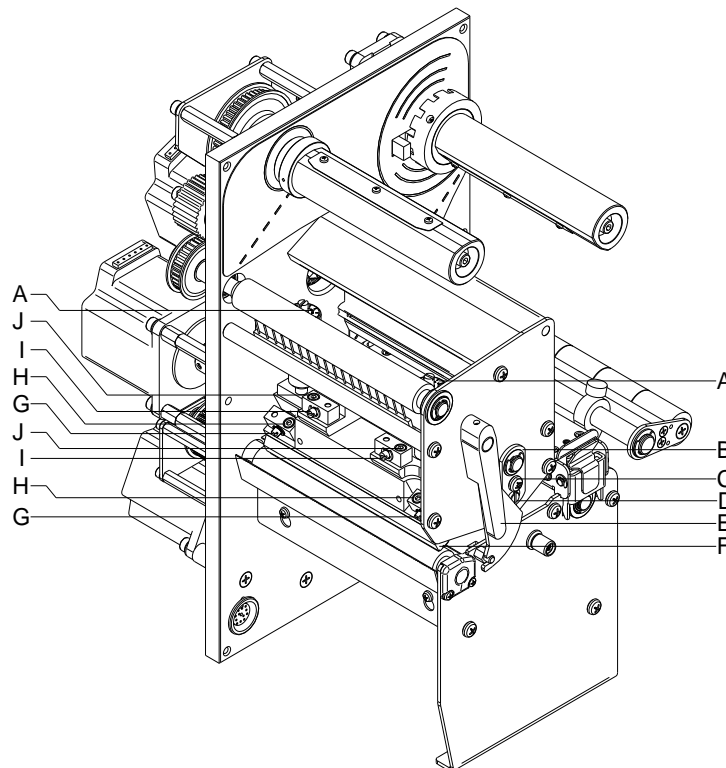

Figure 15
1. Loosen the screws (H or J, Figure 15) with a hexagon key by approx. $\frac{1}{4}$ rotations.
2. Adjust the parallelism with the adjusting screws (G or I, Figure 15).
4. Tighten again the screws (H or J, Figure 15).
1. Loosen the screw (C, Figure 15) by approx. $\frac{1}{4}$ rotations.
2. In order to achieve a pressure balance, turn the excentric bolt (D, Figure 15) as long as the printing result comes up to your full expectation.
3. Tighten again the screw (C, Figure 15).
1. Turn the pressure screws (A, Figure 15) to change the pressure of printhead.
2. Turning the pressure screws (A, Figure 15) as far as they will go in clockwise direction results in a pressure increase of 10N in contrast to the factory setting.
3. Turning the pressure screws (A, Figure 15) exactly one rotation from the right stop position counter clockwise results in the factory settings.